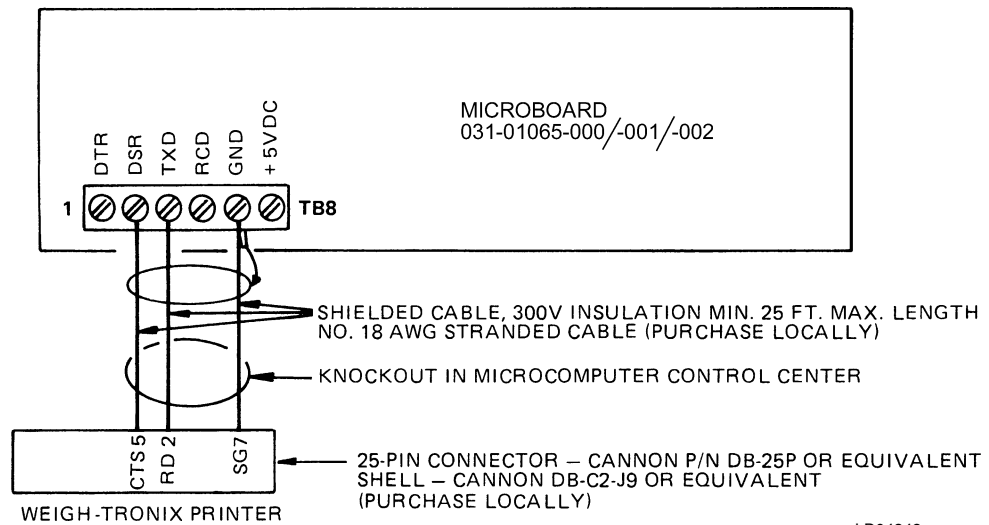

FIG. 10 – PRINTER INTERFACE ADAPTER FOR WEIGH-TRONIX PRINTER
1. Fabricate printer interface cable per Figs. 10 thru 14.
2. Connect printer interface cable to the Microboard by stripping 1/4" insulation from wires and inserting under screws of TB8 of Microboard. Tighten screws. Connect per Figs. 10 through 14.